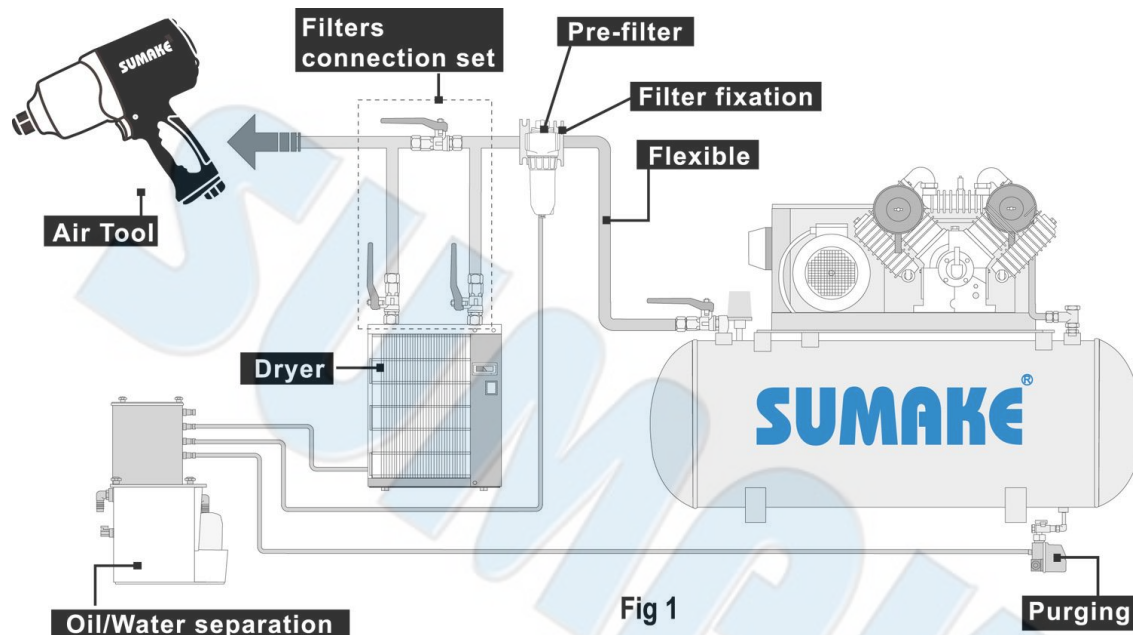

Fig 1
5. Please refer Fig.1 illustration shows the correct mode of connection to the air supply system which will increase the efficiency and useful life of the tool.
1. Dry the filter (fig1) and the air inlet of the tool.